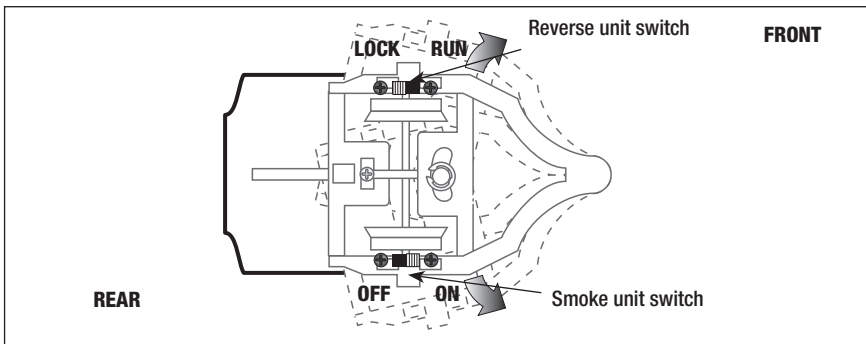

Figure 3. Switch locations on the underside of the locomotive
Your locomotive is equipped with a smoke generator that produces safe, clean white smoke during operation if the smoke unit switch is in the ON position. Refer to Figure 3 on page 7 for the location of the switch.
To “lock” your locomotive into forward operation only, you can deactivate the reverse unit’s sequencing function. Follow the steps below and refer to Figure 3 for the location of the reverse unit switch.
2. Slide the reverse unit switch to the LOCK position. See Figure 3 for the location of this switch. At this point, the locomotive is “locked” into forward direction operation.